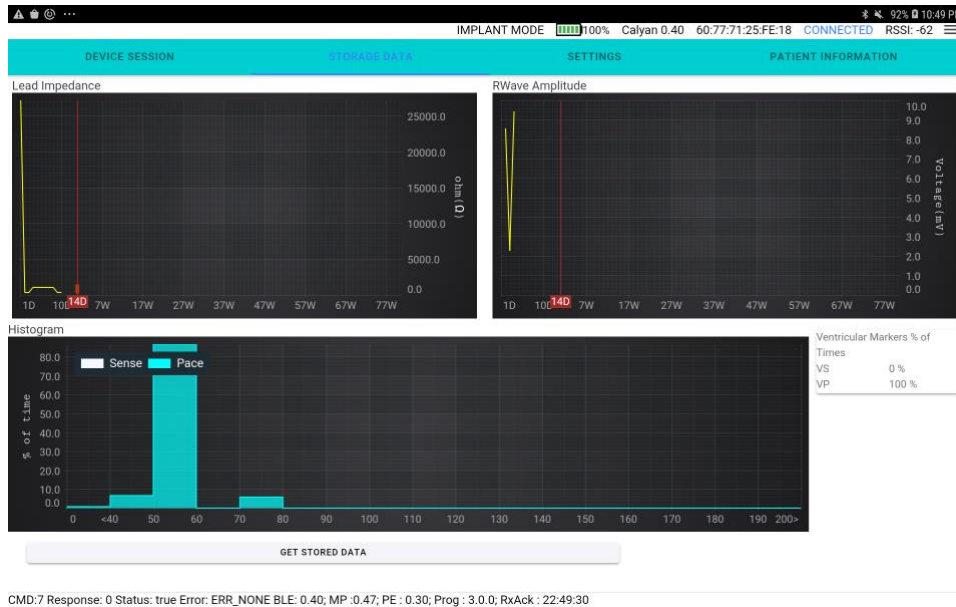

Figure 156: Stored Data
1. The “STORED DATA” page displays (Figure 156)